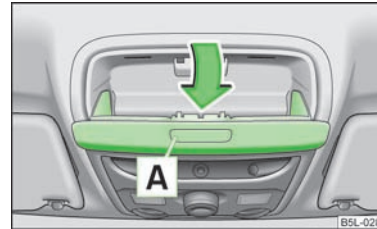

Fig. 75
► Press the button **A** » Fig. 75 and the compartment folds down.